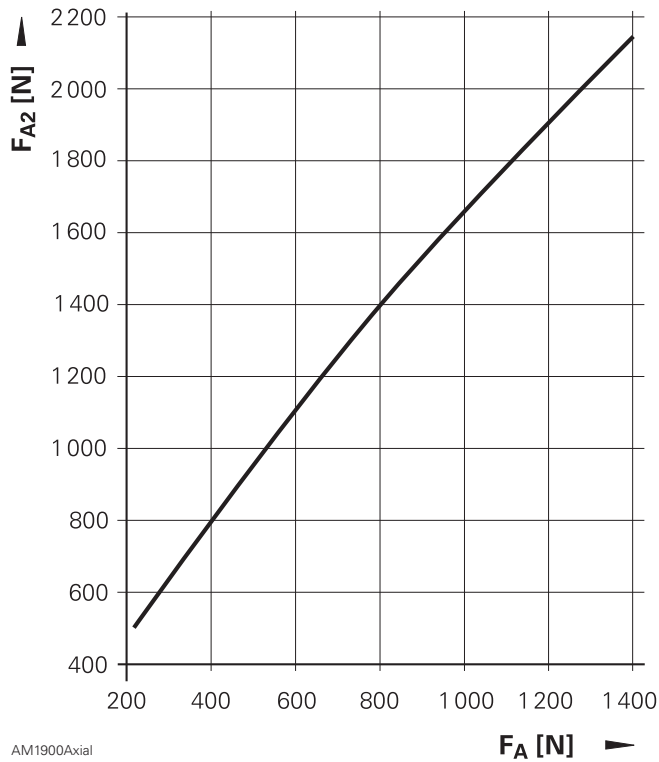

Figure 7-79, AM 1900 Series - Permissible Axial Force on the Motor Shaft (F_{A2})
- Use the first diagram to determine the equivalent axial force F_{A2} over the applied axial force F_A (for example, refer to Figure 7-79, AM 1900 Series - Permissible Axial Force on the Motor Shaft \(\$F_{A2}\$ \)). The applied axial force F_A must not exceed 1000 N.
- Figure 7-79, AM 1900 Series - Permissible Axial Force on the Motor Shaft \(\$F_{A2}\$ \)